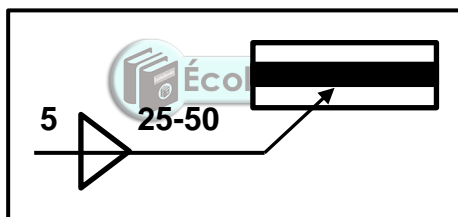

FIGURE 5.7 (3)
5.7 State the meaning of the dimensions of the weld indicated in FIGURE 5.7 below.